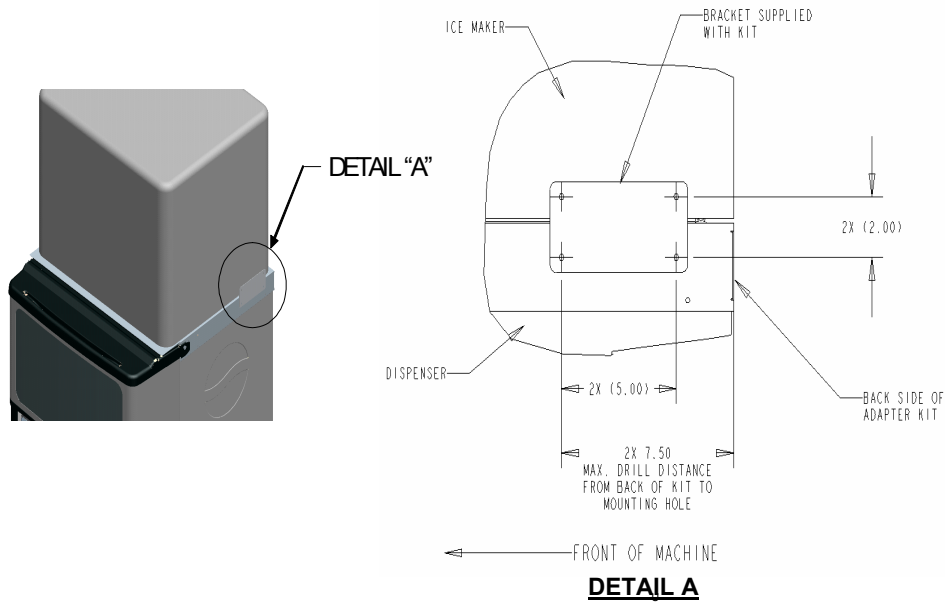

FIGURE 4
8. The next step is to secure the icemaker to the kit. Use the brackets (supplied) as templates to drill four 9/64" (.140" Dia.) holes into the adapter kit (2 per side). When drilling holes, the maximum distance from the back of the kit is 7.50 inches (refer to Figure 4). Failure to comply will result in damage to the sliding arm mechanisms internal to the kit. Drill four holes of the same diameter into the icemaker (2 per side). Ensure the location of the brackets will not damage the kit or the icemaker prior to drilling any holes. **USE EXTREME CAUTION NOT TO DRILL INTO ANY OTHER COMPONENTS.** Drill depths should not go further than the thickness of the material being drilled (just enough to go through). Secure the two brackets using the screws provided.